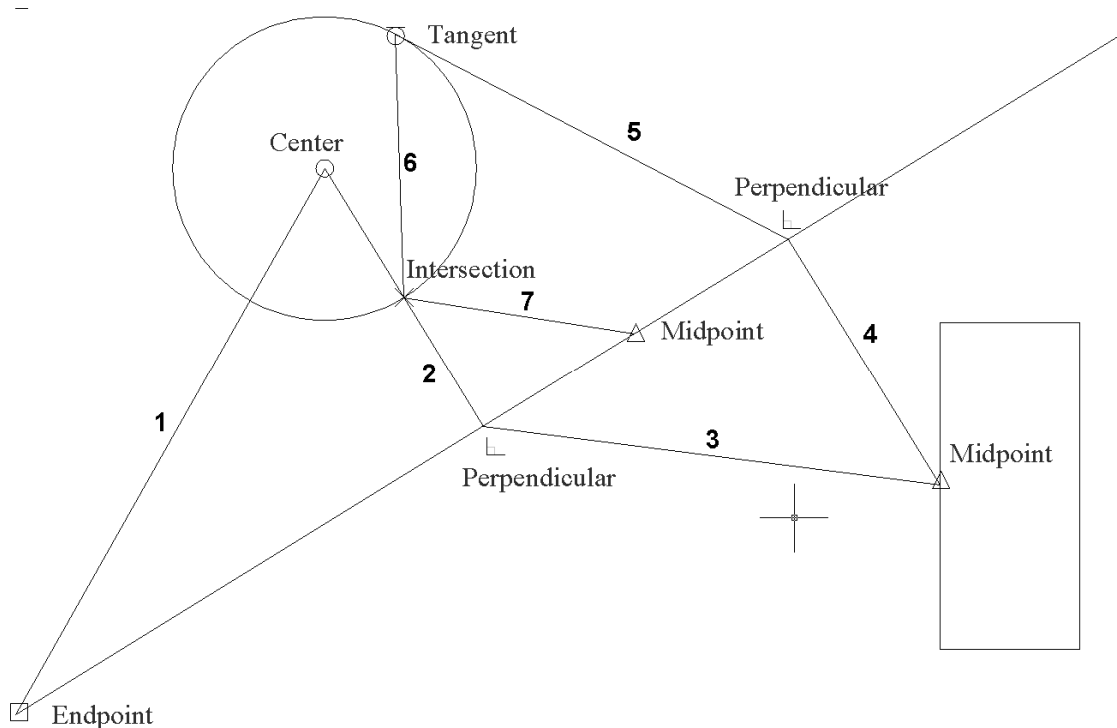

Figure 2-2.7 Several lines added using running OSNAPs. The numbers indicate the order the lines are to be drawn in.
8. Draw the additional lines shown in **Figure 2-2.7** using the appropriate *Object Snap* (changing the Running Snap as required to select the required point).